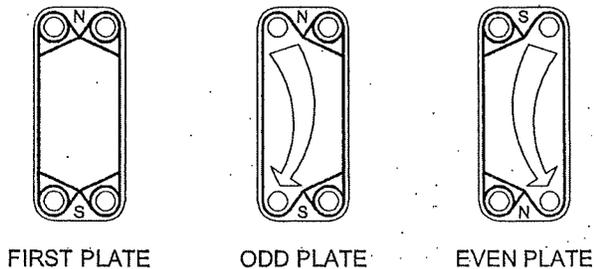

Figure 1.7 - Models Same-Side Flow - VIEX standard design
- ODD and EVEN plates control the orientation of flow of the fluids in the exchanger (See figures 1.7 and 1.8 for details.)
**Model-Same Side Flow:** ODD and EVEN plates are physically identical, thus could be interchangeable by hanging in opposite direction. (See figure 1.7 below.)